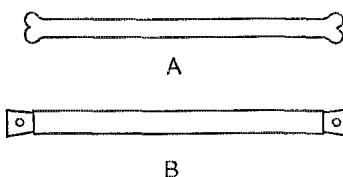
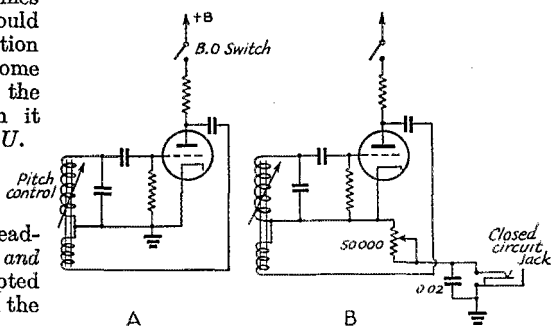

Fig. 2 — Homemade feeder spreaders made from glass tubing by W7DES (A) and W7KKK (B).
Fig. 3 — Simple method of converting superhet beat oscillator for code-practice use.
Fig. 2 — An amplifier of great flexibility is provided by incorporating both positive and negative feedback as shown above. The various types of circuit response obtainable are shown in Fig. 3.
The simplest method of reverse-feedback having sufficiently flat frequency characteristics is the un-by-passed cathode-resistor method, and this we may employ. In order to use standard parts in our amplifier, which might best be an intermediate-frequency one of, say, 5,000 kc. for use in a communications-type superheterodyne, we shall also use the so-called tuned-plate-tuned-grid circuit for the positive feedback, together with an auxiliary variable air-condenser between control-grid and plate of the tube. In accordance with the above, an experimental amplifier was built up using the circuit shown in Fig. 2, curves for which are given in Fig. 3.
Fig. 3 — Experimental response curves with the amplifier of Fig. 2. (A) no regeneration or degeneration; (B) regeneration only; (C) critical combination of regeneration and degeneration. Reproduction difficulties make it impossible to do justice to the actual (C) curve, since a graphic line has to have some thickness.
I've discovered a little kink for my Sky Buddy, S19R which doubtless may be applied to other superhets. I wanted some means for code practice, so I changed the b.f.o. circuit as shown in Fig. 3. As may be seen, the only changes made were to disconnect the ground connection from the cathode of the b.f.o. tube and connect the cathode to the ground through a variable 50,000-ohm resistor and a closed circuit jack. To reduce key clicks, a condenser of 0.02 μ f. is put across the jack.